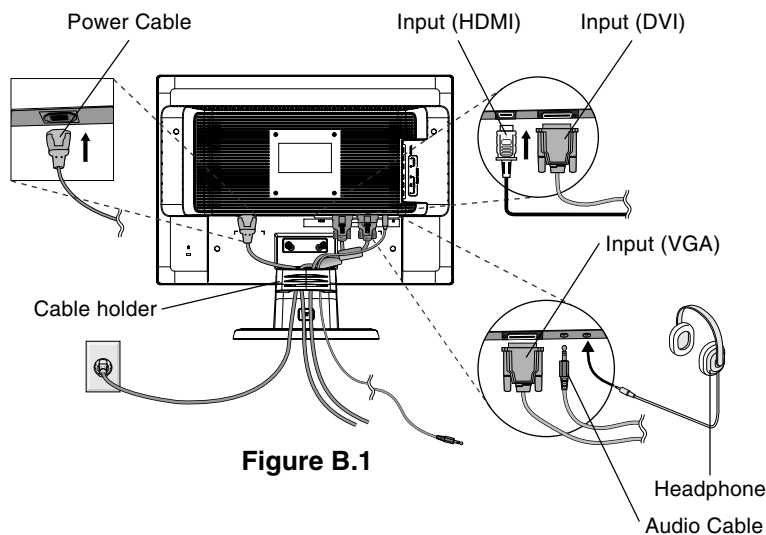

Figure B.1
3. Connect one end of the power cord to the monitor and the other end to the power outlet. Use the Cable holder to keep the Video Signal Cable, Audio cable and power cord together (**Figure B.1**).
Attach the Cable Holder on to the Base. Insert the hooks on the Cable Holder into the holes at the back of the Stand and slide the Cable Holder downward into place (**Figure B.1**).